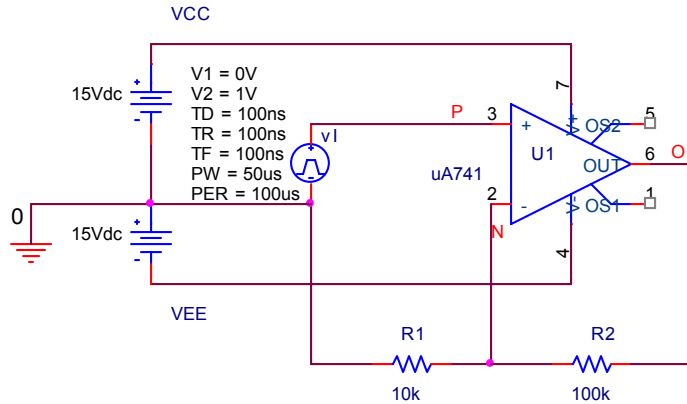
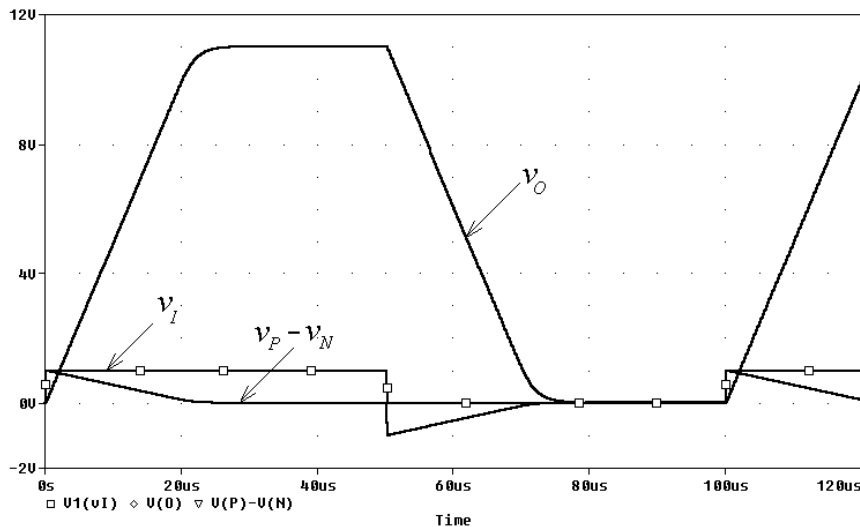

Fig. 5 – PSpice circuit to plot the large-signal transient response.
Fig. 6 – Large-signal transient response of the circuit of Fig. 5.
If the amplitude of the input step is gradually increased, a point is reached at which the output becomes *slew-rate limited*, and the initial portion of the transient becomes a linear ramp *ramp*. The slope of this ramp is called the *slew rate* (SR). The 741C data sheets give $SR \cong 0.5$ V/ μ s. We use the circuit of Fig. 5 to visualize a slew-rate limited response, and the result is shown in Fig. 6.